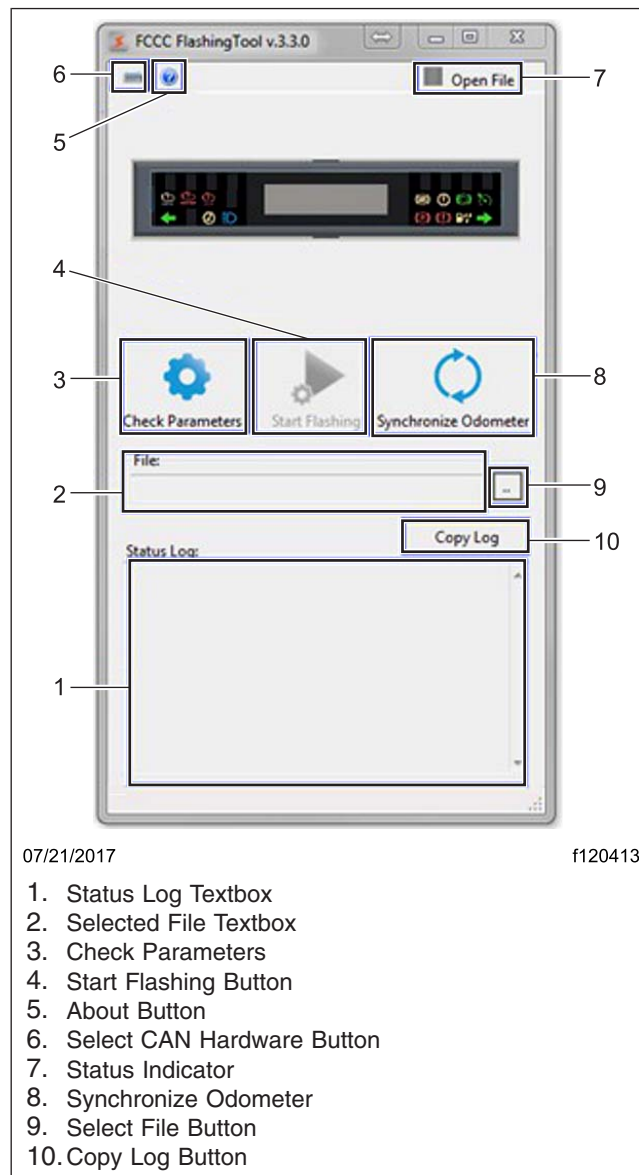

Fig. 1, Reflash Tool, Main Screen
3. Select the "Select CAN Hardware" button, shown in Fig. 1, then select the "Check" button in the "Select Hardware Interface" window to display which hardware devices are available on the laptop.
17. Select the "Select CAN Hardware" button, shown in **Fig. 1**, then select the "Check" button in the "Select Hardware Interface" window to display which hardware devices are available on the laptop.